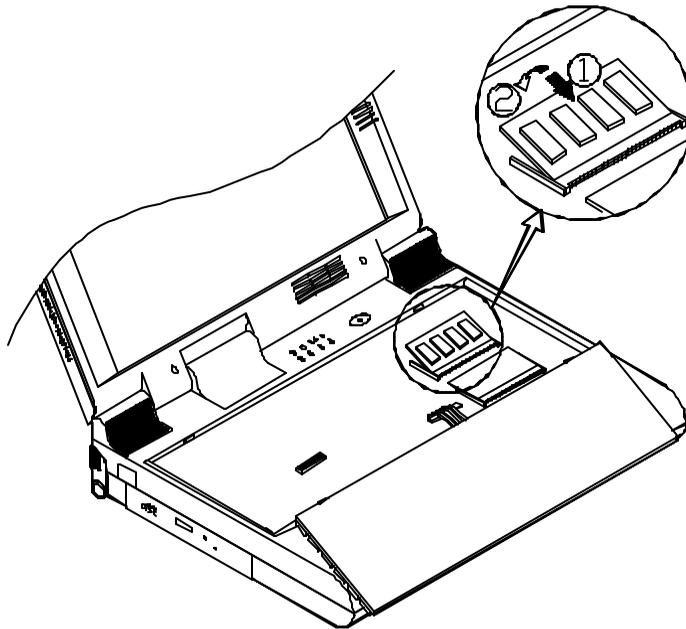

Figure 2-9
4. Position the memory module at a slight angle and fit its connectors into the socket firmly. Push the module down and ensure it locks into place (Figure 2-9).